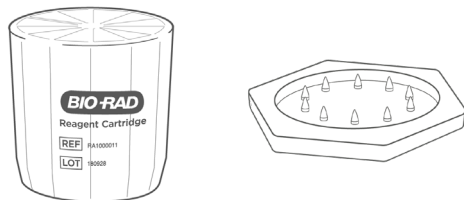

Fig. 32. Reagents Cartridge and Reagents Cartridge Venter.
1. Pierce the top foil of the Reagents Cartridge with the Reagents Cartridge Venter, making sure to twist the Venter to open the foil (Figure 32).